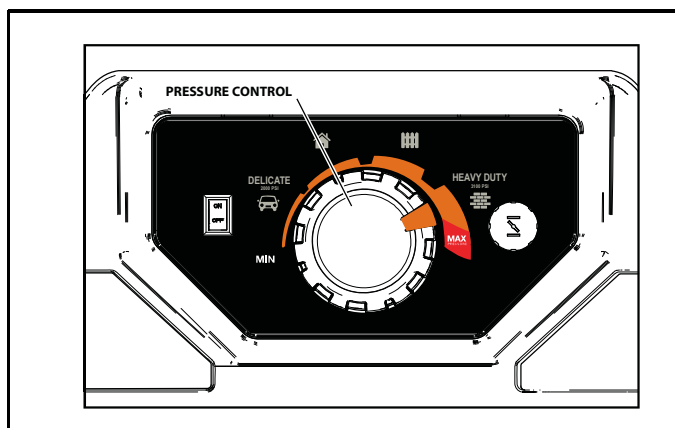

Figure 5-3. Power Dial
2. Rotate pressure control knob to the position shown on "Start" decal (Item #2) (Figure 5-3).